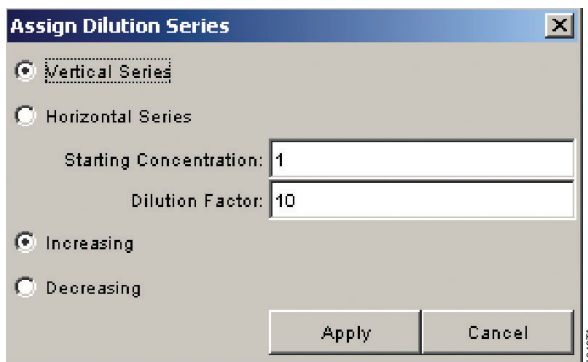

Figure 31. The Assign Dilution Series screen.
4. A row or column of contiguous wells within a dilution series of standard reference templates may be simultaneously assigned as standards using the “Assign Dilution Series” function by highlighting multiple wells (Figure 31). You must enter the initial concentration of the series, the dilution factor and whether the series is increasing or decreasing.